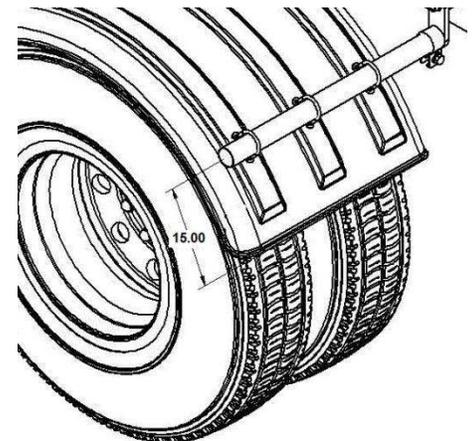

Figure 5
- D. If possible, position the mounting brackets so they are located within 15" of the bottom of the fender. This protects against wind blowing the leading edge of the fender back into the tire (Figure 5).